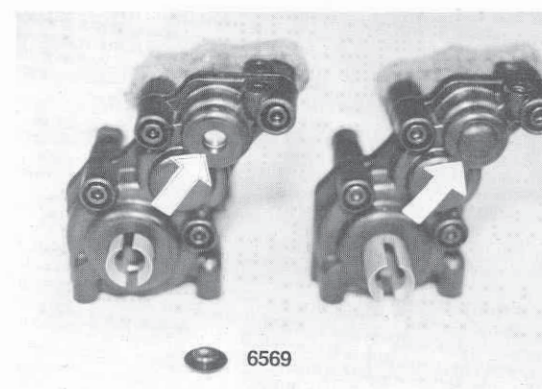

Fig. 61
8) Orient the tranny as in fig. 61. If you look at the upper part of the case you will see a hole in the left side at the drive gear/shaft location. You will need to press the #6569 case dust